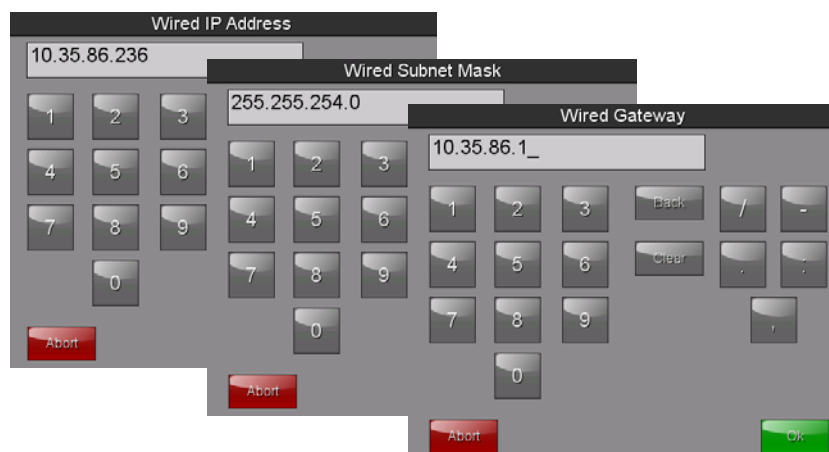

FIG. 25 Wired IP Address, Wired Subnet Mask, and Wired Gateway (Static IP info) keypad
2. Select the *IP Address* field to open the *Wired IP Address* keypad (FIG. 25).